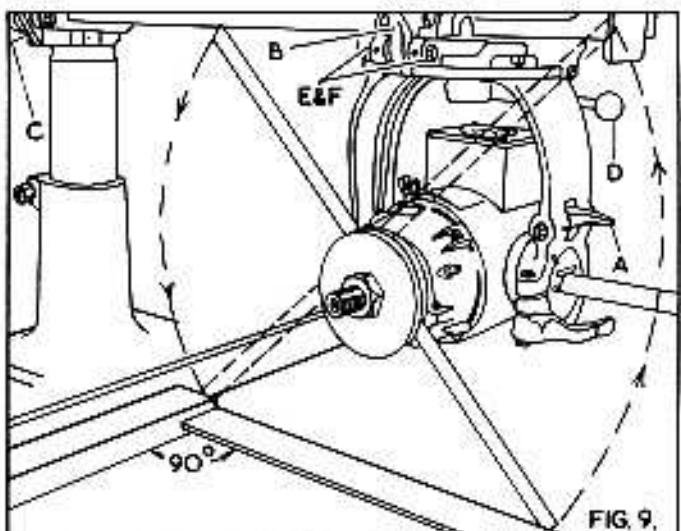
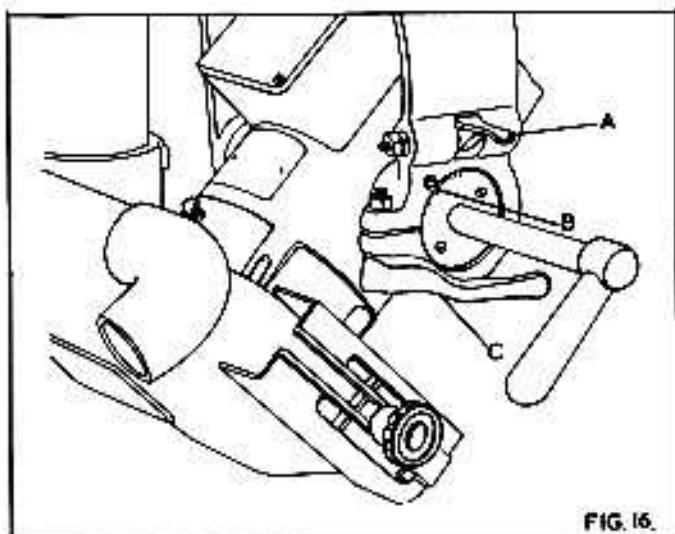

FIG. 9
FIG. 16.
2. Ensure the motor locating latch "A" in Fig. 9, the stirrup locating latch "B" and the carriage locking screw "C" in Fig. 16 is securely locked.
4. Lift arm locating latch "G" in Fig. 9 and swing arm to extreme ends of the table checking that clearance between rod and table remains constant.
To check this alignment place a steel rule or some other similar straight edge between the saw flanges as shown in Fig. 9 and a steel square against the fence. Rotate the steel rule from front to rear. If adjustment is necessary loosen stirrup locking handle "D", and disengage the stirrup locating latch "B", set correctly, then relock in position with lever "E". Adjust the aerotight nuts "F" and hexagon locknuts "G" until the latch "B" locates accurately in the slot in the stirrup.
The motor swivels within the strap through 90°. The principle angles are located by a tapered latch "A" in Fig. 16. The angle of cant is clearly shown on a graduated scale by the pointer "B". The motor can be locked at any angle by the locking lever "C".